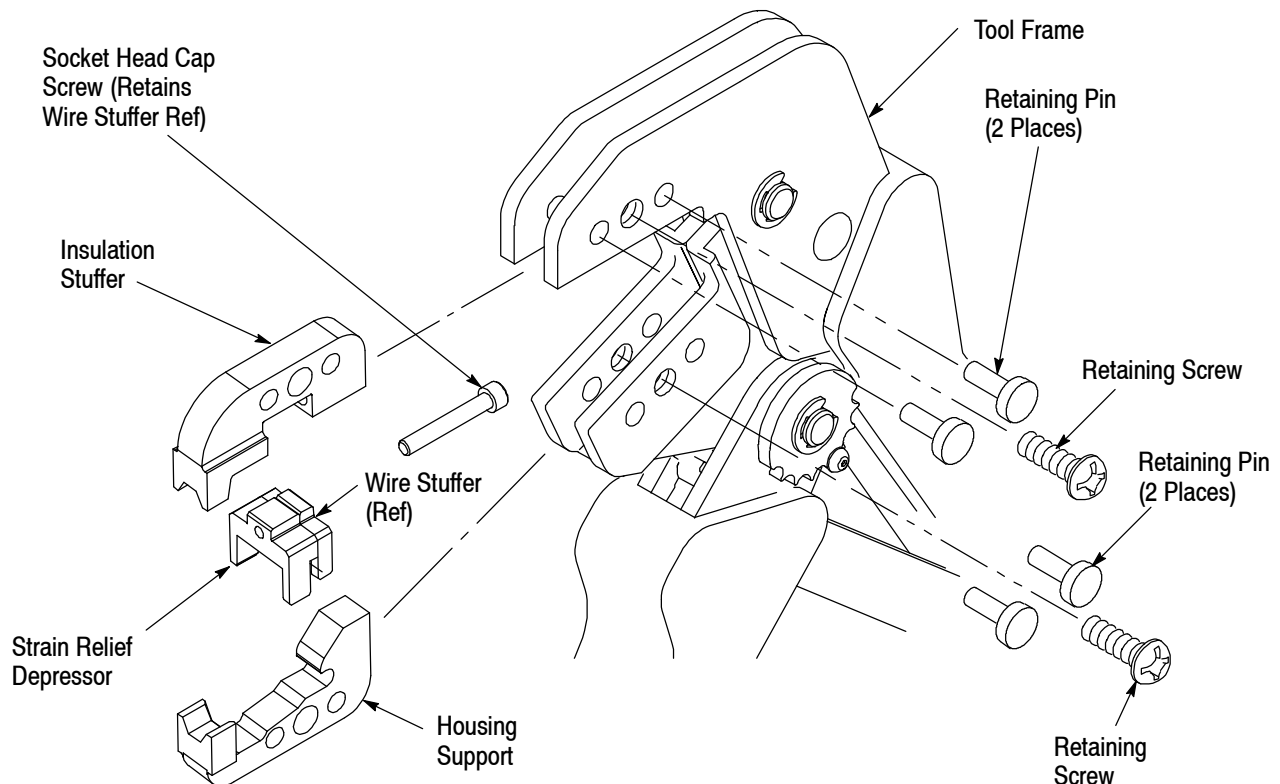

Figure 2
2. Orient the insulation stuffer as shown in Figure 2, and insert it into the stationary jaw of the tool frame. Align the holes with the associated pins and short retaining screw into the holes in the tool frame. Tighten the screw.
3. Orient the housing support as shown in Figure 2, and insert it into the stationary jaw of the tool frame. Align the holes with the associated holes in the tool frame. Insert the short retaining pins and short retaining screw into the holes in the tool frame. Tighten the screw.
1. Install the wire stuffer onto the insulation stuffer using the 4-40 UNC $\times$.621 in. socket head cap screw included with the die assembly. Refer to Figure 2.